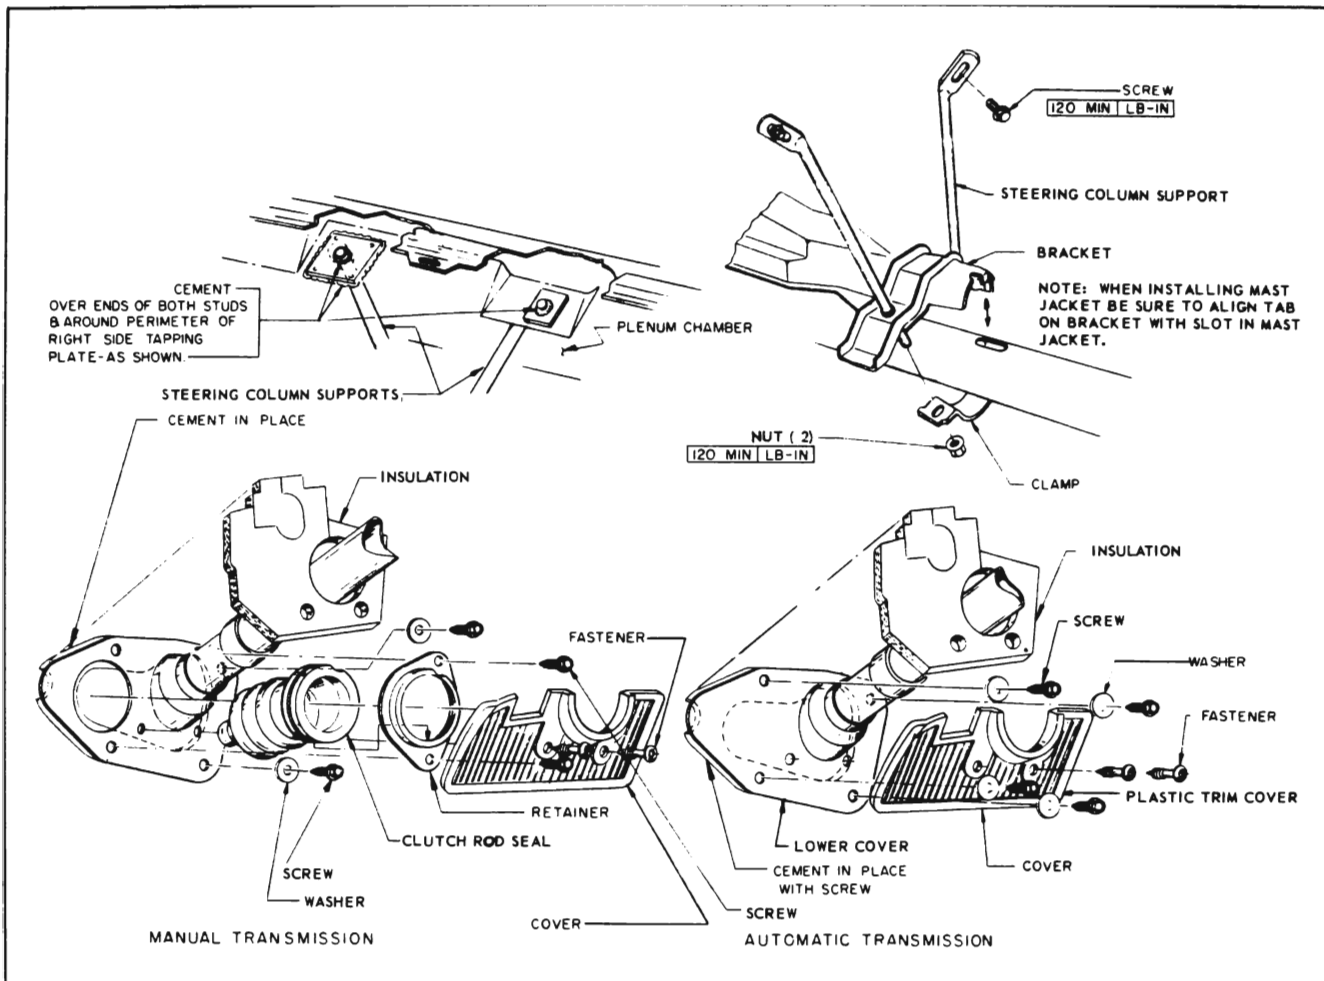

Figure 8-2—Mast Jacket Installation
5. Remove screws that retain toe pan cover to toe pan. See Figure 8-2.
upper half of rag joint coupling and loosely attach jacket to instrument panel using mast jacket clamp and nut (see Figure 8-2).
NOTE: When connecting mast jacket to instrument panel be sure to align tab on bracket with slot in mast jacket (see Figure 8-2).